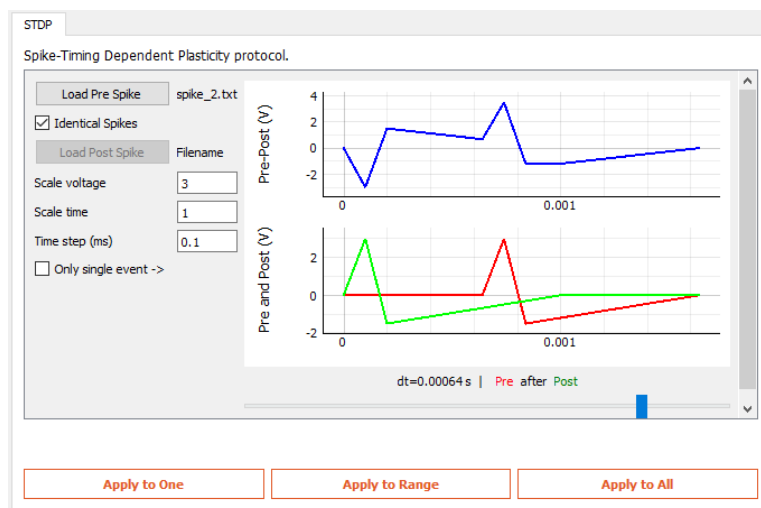

Figure 31: STDP module interface.
**Load Pre Spike:** browse to load a voltage series text file which will define your Pre- spike. For example, the Pre- and Post- pulses displayed in Figure 31 above were defined in the text file shown on the left. When writing your own spike txt files, make sure the first and last point series has 0V. A few spike txt files can be found in ArC Control/Helper/.